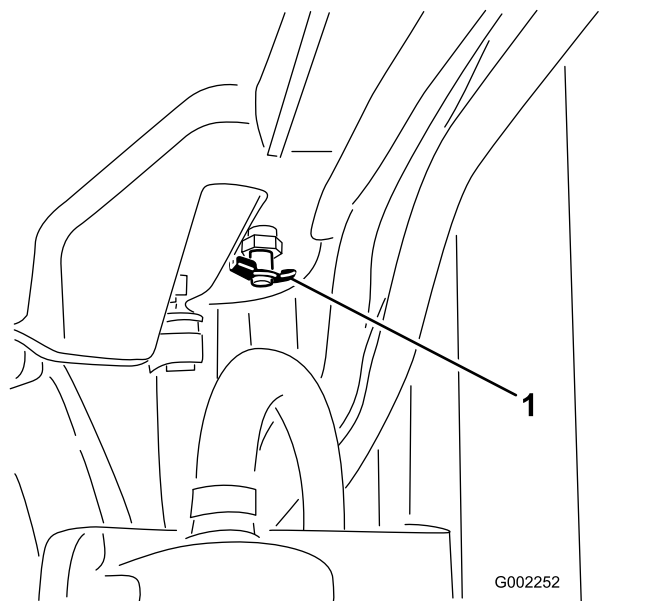

Figure 104
4. Open the drain valve and drain the coolant into the pan (Figure 104).
5. Close the drain valve (Figure 104).